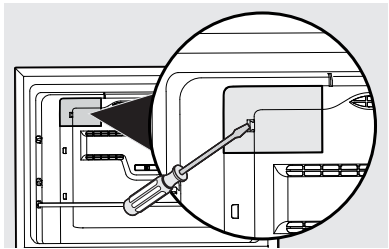

Figure 2
3. Remove water inlet and electrical cover, located on the inside of the unit, by inserting a flathead screwdriver on left side of opening in the small cover. Push to the right to disengage the snap. See Figure 2.